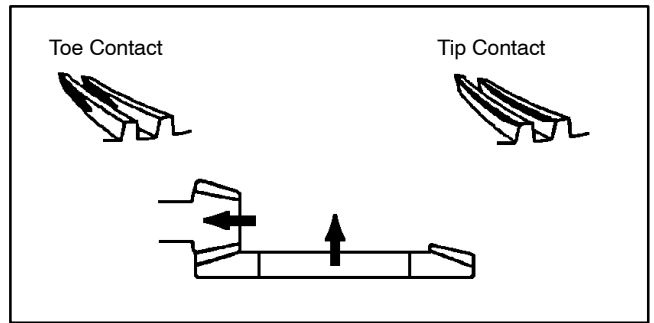

Figure 31
2. If contact is toward the toe or tip of the gear (Fig. 31):